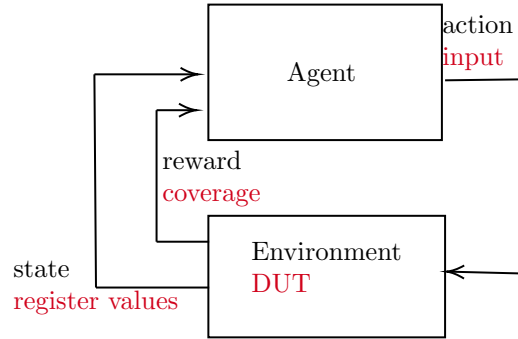

Figure 3: DUT as part of Reinforcement Learning
**Solution Statement** In the schematic in figure 3 we can see how I’m approaching the problem: my goal will be to design an Agent capable of forcing some input (actions) on the DUT (Environment), based on the register values (state). The reward will be a function of the coverage, which is an indicator of states explored. As previously said, the problem will be solved using reinforcement learning: the episode will be a test, and a step of the episode corresponds to a test’s cycle (in the schematic is not shown, but registers have clock input). In particular the actor-critic method as in the DDPG paper will be employed. I’m very willing to master this method because it’s very new and seems to be perfect for solving this problem, as it may have a really big number of states. My goal is to try different configurations of DUT, varying the input size between 2 and 100, and the states number between 10 and 1000.